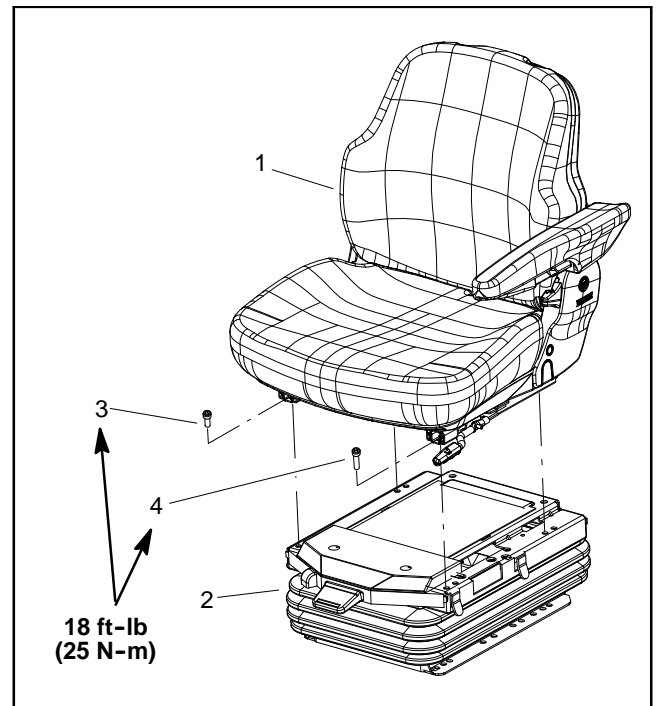

Figure 13
4. Remove flange nut (item 25) and carriage screw (item 24) that secure support bracket (item 21) to support channel (item 19).
5. Remove cap screw (item 26) that secures console arm support (item 20) to hex nut (item 27).
6. Remove cap screw (item 23), flat washer (item 10), spacer (item 22) and seat belt buckle (item 35) from seat and console arm support (item 20).
8. Remove four (4) torx head screws that secure seat to seat suspension (Fig. 13). Note that the screw near the seat adjustment handle is longer than the other three (3) screws.
2. Secure seat to seat suspension with four (4) torx head screws (Fig. 13). Make sure that longer screw is positioned near the seat adjustment handle. Torque screws **18 ft-lb (25 N-m)**.
- A. Secure support bracket (item 21) and support channel (item 19) with flange nut (item 25) and carriage screw (item 24).
- B. Secure console arm support (item 20) to hex nut (item 27) with cap screw (item 26).
- C. Place flat washer (item 10), seat belt buckle (item 35) and spacer (item 22) between seat and console arm support (item 20). Secure with cap screw (item 23).